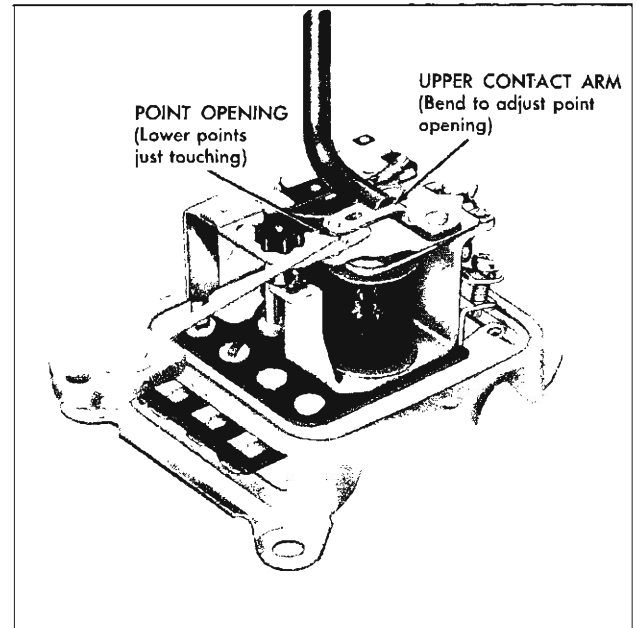

Fig. 36—Checking Voltage Regulator Point Opening
1. **Point Opening:** With the lower contacts touching, measure the point opening between the upper contacts as shown in Figure 36. Adjust by bending the upper contact arm.